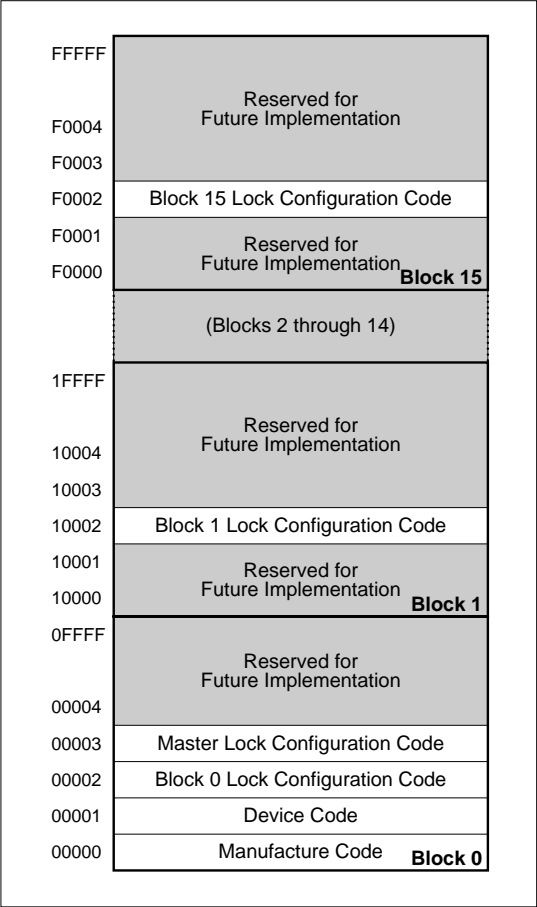

Fig. 2 Device Identifier Code Memory Map
The read identifier codes operation outputs the manufacture code, device code, block lock configuration codes for each block, and the master lock configuration code (see Fig. 2). Using the manufacture and device codes, the system CPU can automatically match the device with its proper algorithms. The block lock and master lock configuration codes identify locked and unlocked blocks and master lock-bit setting.
IA = Identifier code address : see **Fig. 2**.
The identifier code operation is initiated by writing the Read Identifier Codes command. Following the command write, read cycles from addresses shown in **Fig. 2** retrieve the manufacture, device, block lock configuration and master lock configuration codes (see **Table 4** for identifier code values). To terminate the operation, write another valid command. Like the Read Array command, the Read Identifier Codes command functions independently of the VPP voltage and RP# can be V_{IH} or V_{HH}. Following the Read Identifier Codes command, the following information can be read :
1. X selects the specific block lock configuration code to be read. See **Fig. 2** for the device identifier code memory map.